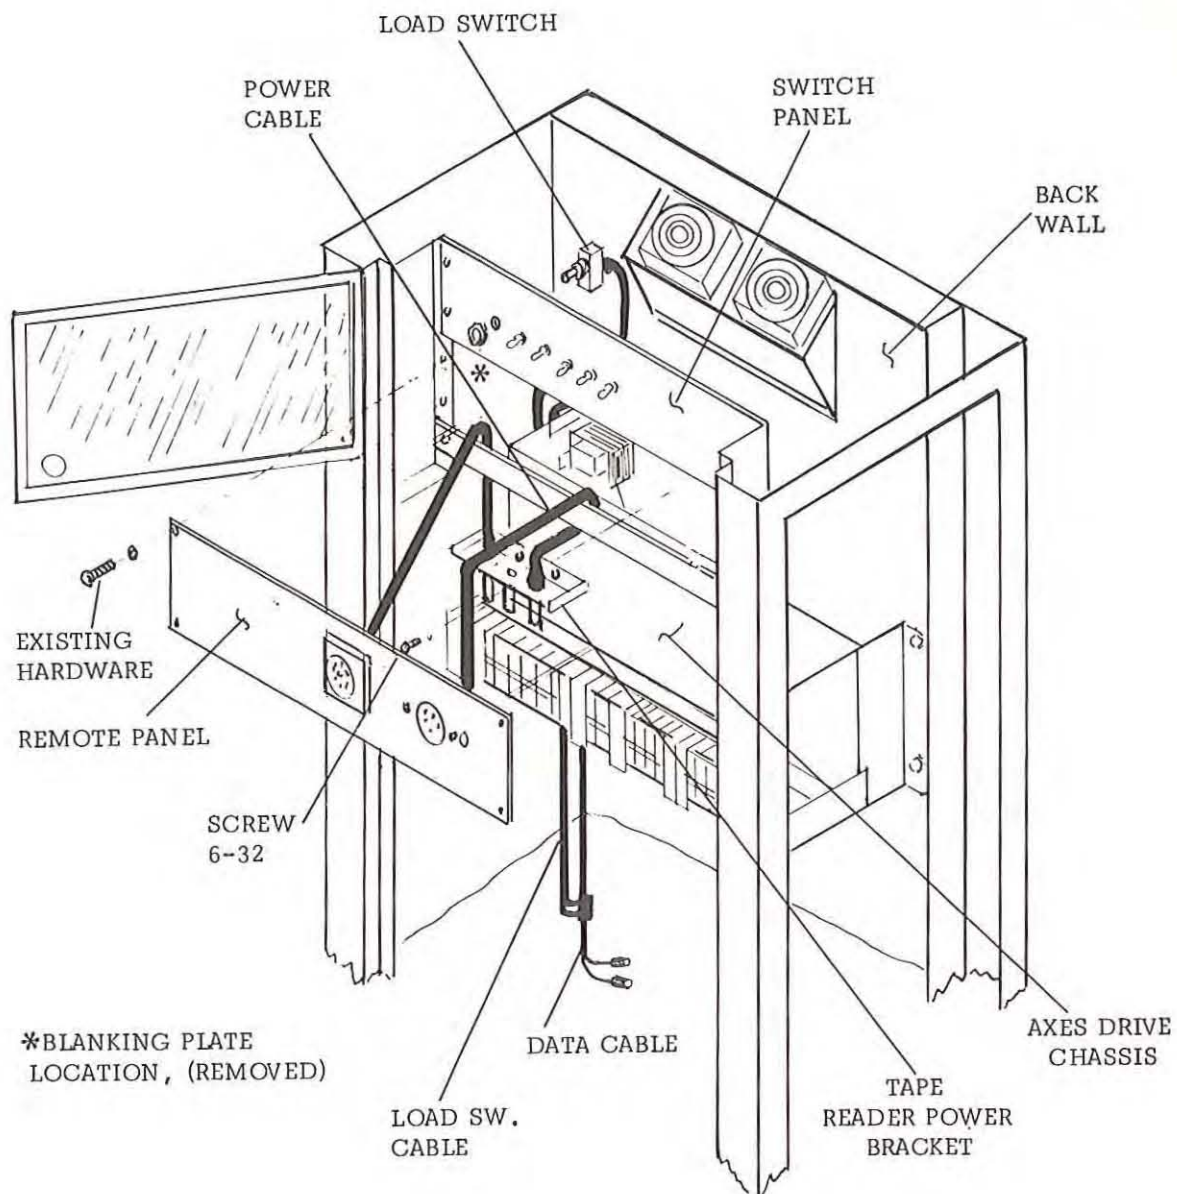

Figure 7-3 Tape Reader Adapter Panel Installation
7.1.2 Installation of the Remote Tape Reader Panel (Ref. Figure 7-3)